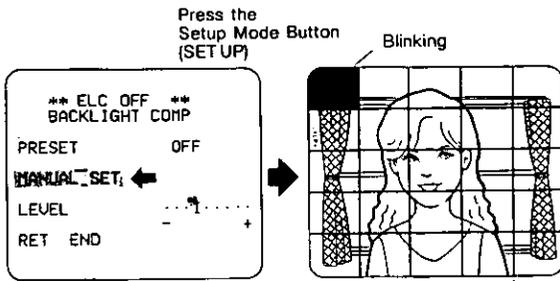

Fig. 50
- Move the cursor to the "MANUAL SET" mode position and press the Setup Mode Button (SET UP). The 25 Mask Areas appears on the monitor screen as shown in Fig. 50. The left top area starts blinking as a cursor.